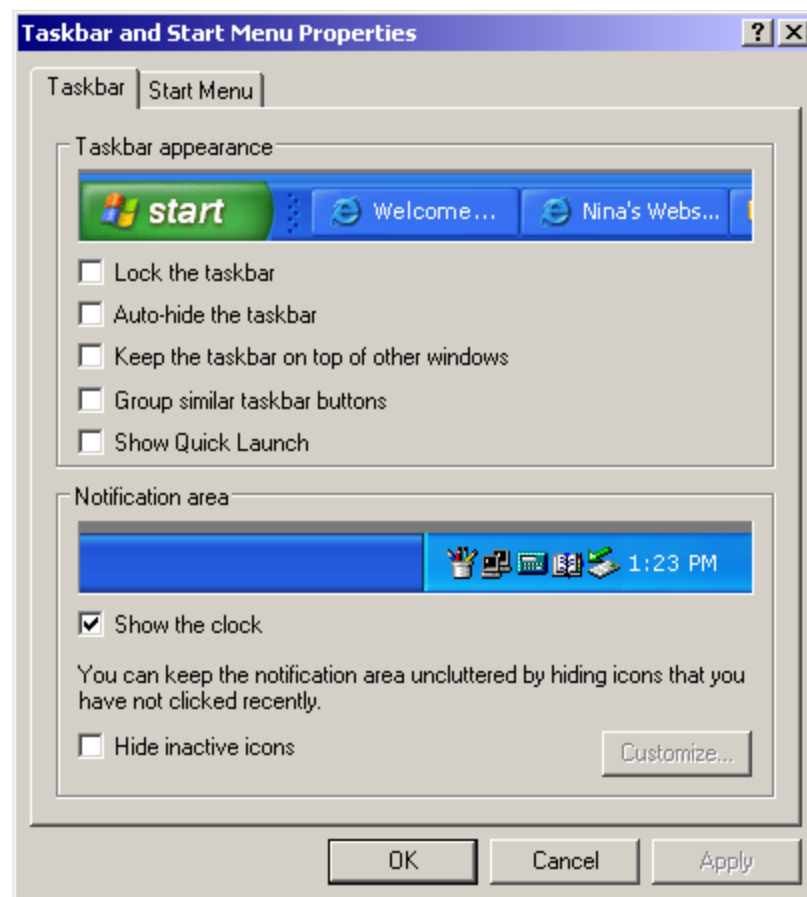

FIGURE 121. Taskbar & Start Menu Properties
5. Select the options to match Figure 121.